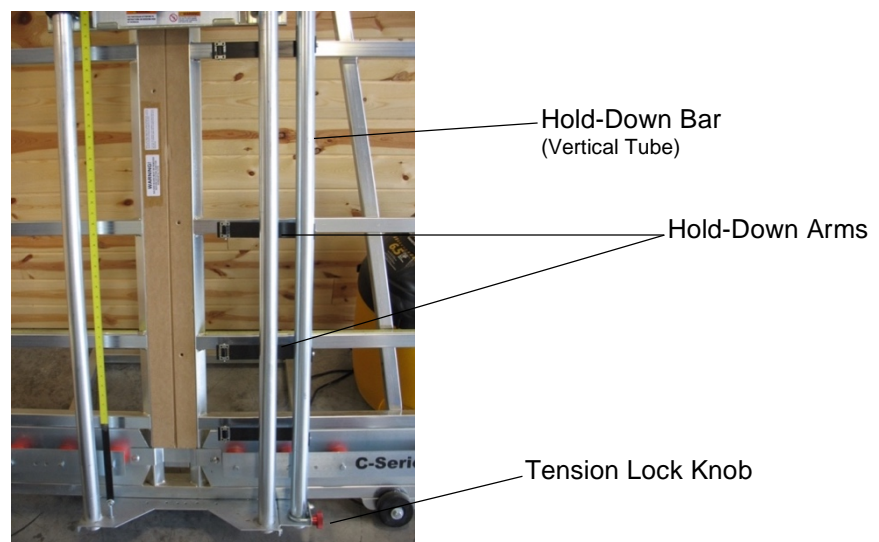

Figure 61: Hold-Down bar installed
5. Turn the vertical tube until the spring arms touch the tool frame and then tighten the top and bottom tension locks (Fig. 61).